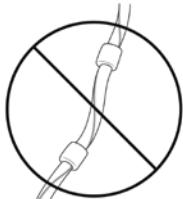

Figure 24
7. Use the radiopaque stripe as a guide to avoid twisting the catheter. (Figure 24). For optimal catheter placement, radiopaque stripe should be oriented directly anterior or directly posterior in the patient.